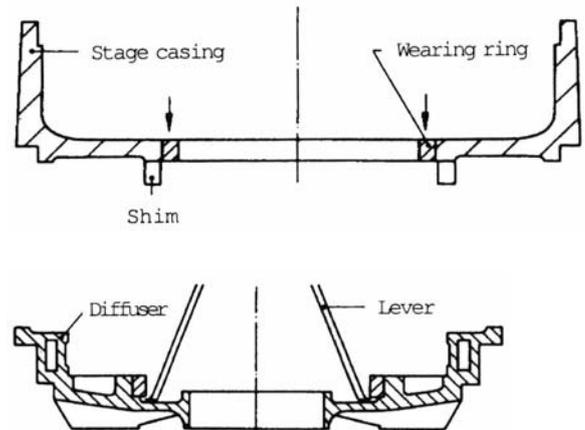

Fig. 17 Renewing the casing wearing rings.
1. Undo the allen grub screw, press the casing wearing rings in the stage casing and diffuser out of the fit taking care not to damage the fit. (see fig. 17).